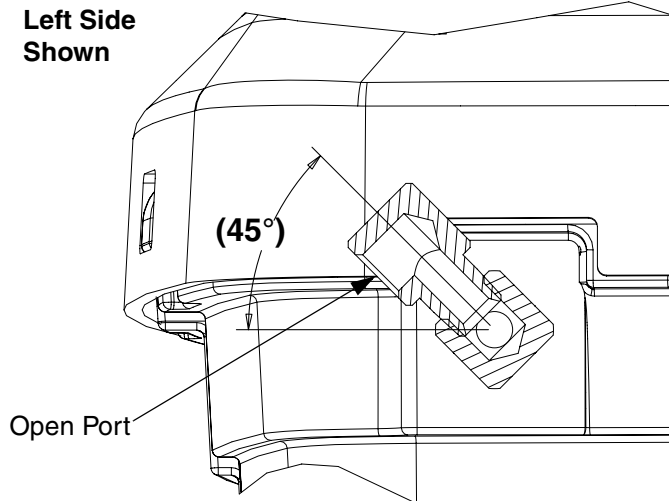

FIG. 21: Orientation of Venting Fittings
Do not fill the outer jacketed area fully if using the hopper or hose circulation kit. See fill instructions in the Hopper or Hose Circulation Kit manual. Overfilling may cause heating fluid to overflow vent fittings (see FIG. 21) during startup.
4. Vent fittings may be installed on either side. See FIG. 21 for correct orientation of venting fittings.